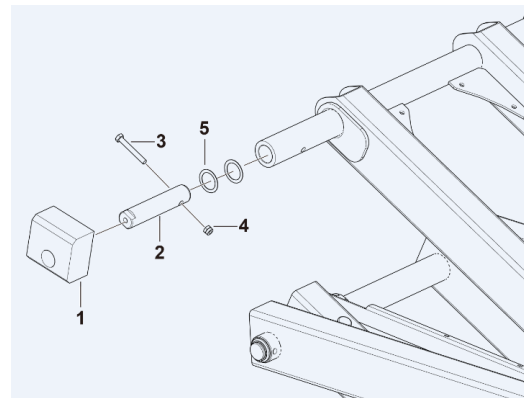

Fig. 3.6 Rear connection between the fork and platform
5. As shown in Fig. 3.6, use a special tool to remove the half shafts connecting the slider and the fork assembly at the left and right sides of the platform. Remove the slider.